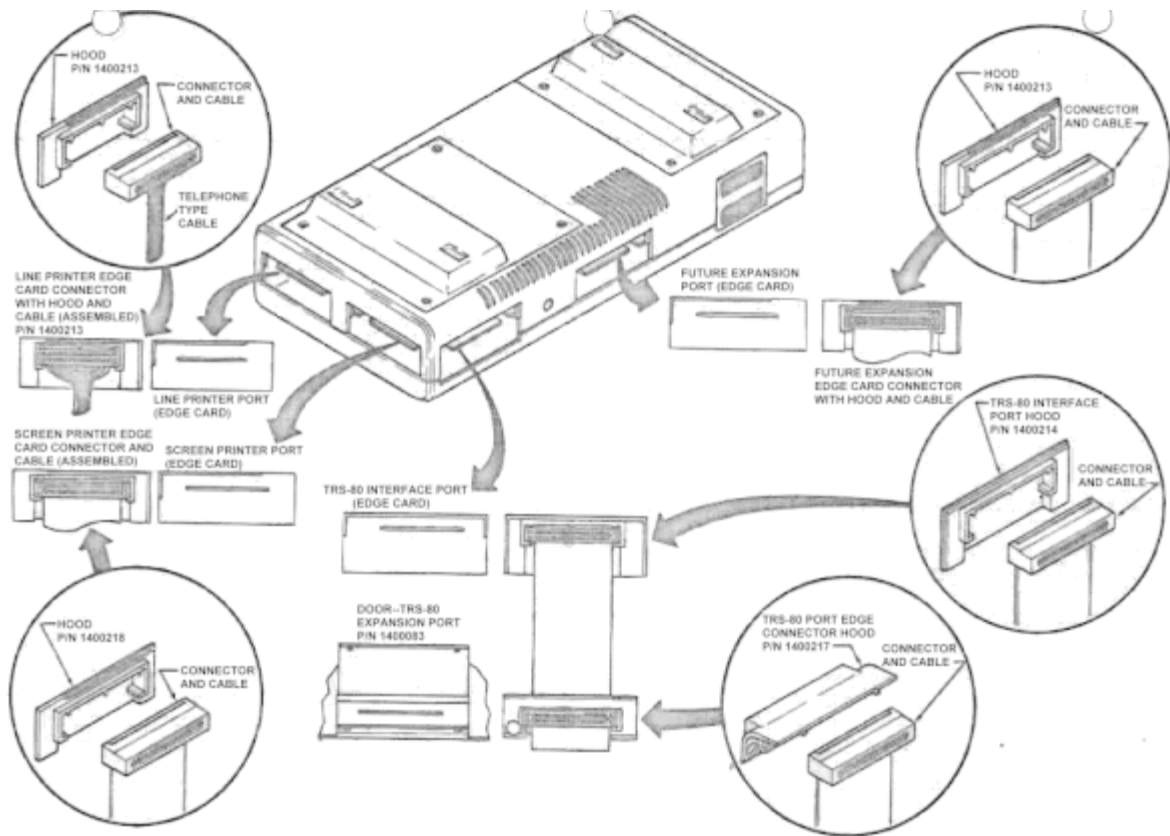

Figure 4: Front View—Interface Connections.
3. Place the TRS-80 and Expansion Interface Hoods (14000217 and 14000214) on the Ribbon Cable Connectors as shown in Figure 4. The Hoods replace the Door on the TRS-80 and fill the opening on the Expansion Interface. These Hoods are designed so that it is not possible to insert the connectors upside down. They function as keyways for the connectors.
The interconnect cable for an expansion module is provided with that unit. See Figure 4 for Hood Assembly and Installation.